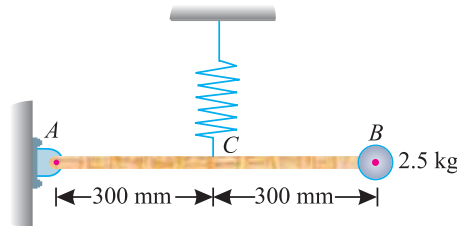

Fig. 26.10.
**Example 26.15.** A uniform thin rod as shown in Fig. 26.10 has a mass of 1 kg and carries a concentrated mass of 2.5 kg at B. The rod is hinged at A, and is maintained in the horizontal position by a spring of stiffness 1.8 kN/m at C.